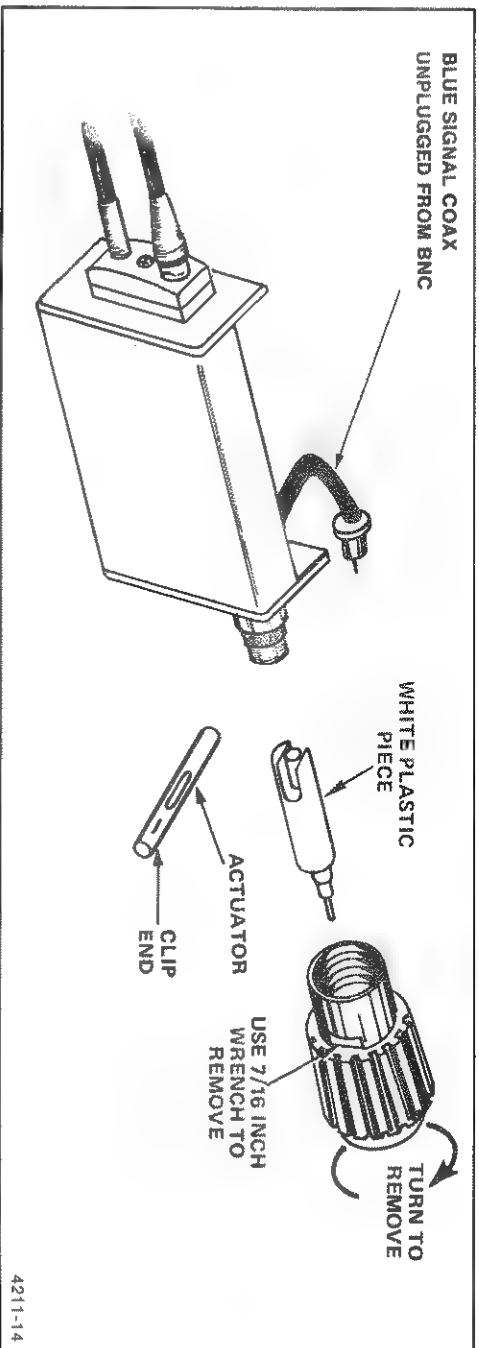

Figure 6-5. INT-EXT switch removal.
3. Using a 7/16-inch open-end wrench, loosen the BNC connector shell and carefully remove it (see Figure 6-5).
5. Grasp the INT-EXT switch actuator and pull to remove (see Figure 6-5). Note orientation of the clip end.
4. Grasp the white plastic piece just exposed and pull to remove (see Figure 6-5).